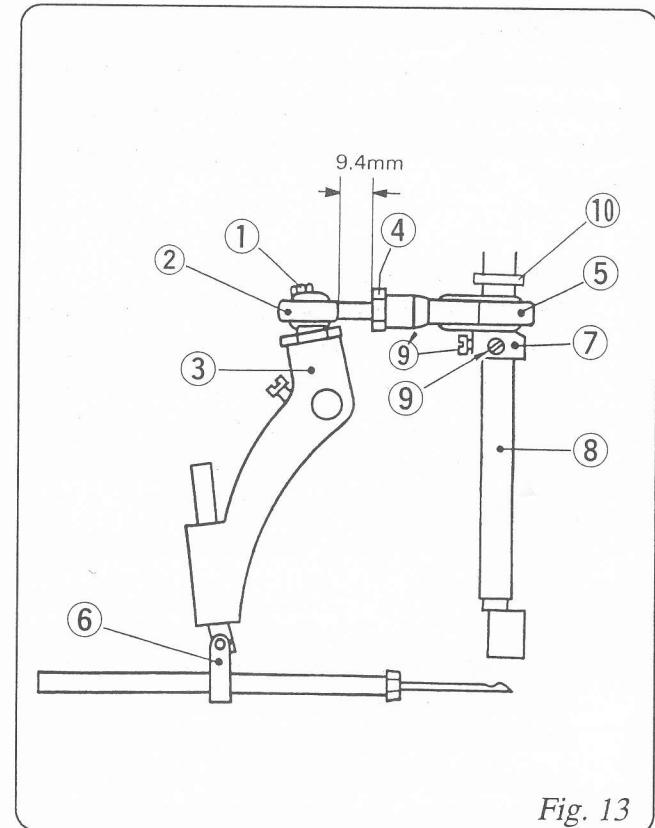

Fig. 13
For replacement or adjustment of Ball Rod, refer to Fig.13.
The position of Needle is adjusted so that the distance between the point of Needle (at its highest position) and Throat Plate is 13 mm, after loosening screw on Needle Bar Connection Assembly ⑥ in Fig.13.
① Screw 11/64S40084
② Rod End 6A04001
③ Needle Bar Lever 242051A
④ Nut 1N8
⑤ Connecting Rod Assembly 242011A
⑥ Needle Bar Connection Assembly 242101A
⑦ Eccentric Cam (part of Connecting Rod Assembly) 242011
⑧ Main Shaft 241102
⑨ ⑩ Screw 11/64S40001
⑪ Spacer 241161